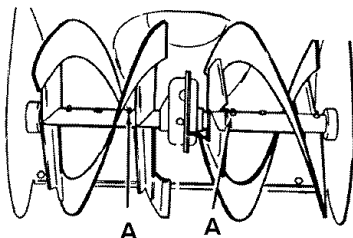

Figure 21
1. Lubricate the **Zerk fittings (A)** every ten hours with a grease gun.
2. Each time a shear bolt is replaced, the auger shaft **MUST** be greased. See Figure 21. See **To Replace Auger Shear Bolt** in the Service and Adjustment section.